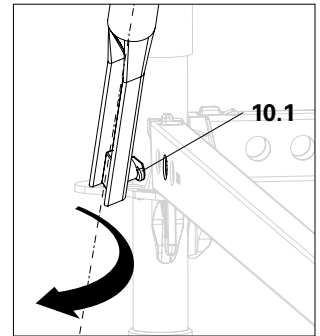

Fig. B1.03a
3. Insert ledger braces (**10 + 12**) with the finger (**10.1**) in the bottom horizontal edger. (Fig. B1.03a)